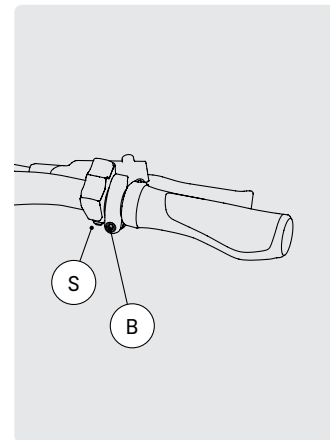

FIG. 26
- 1 Loosen the hexagon socket screws S and B on the shift and brake lever (Fig. 26).